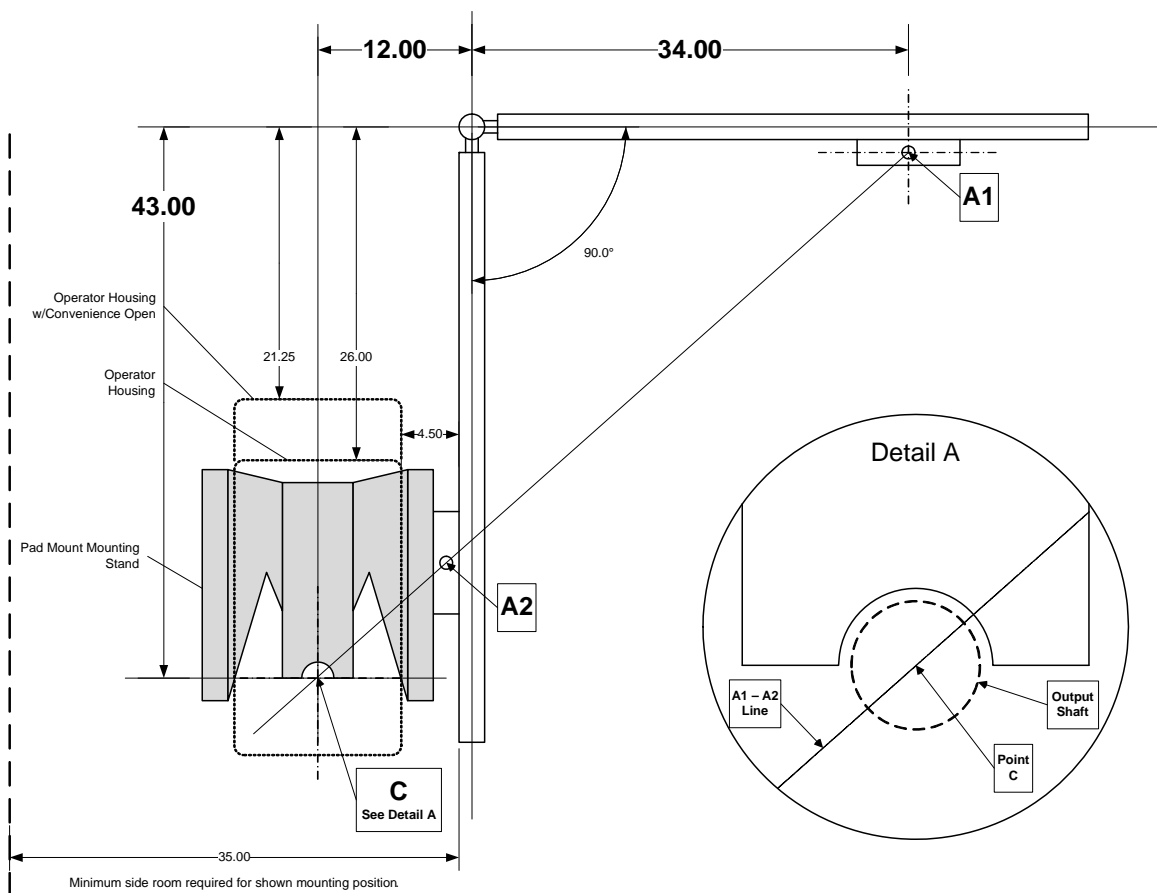

Figure 5
6. Anchor the operator pad mount assembly to the pad using eight (8) 3/8 x 3 sleeve anchors (not supplied). It is important that the operator pad mount assembly is located correctly on the pad so that the A1-A2 line will intersect the operator output shaft (Point C) as shown in Figure 5.